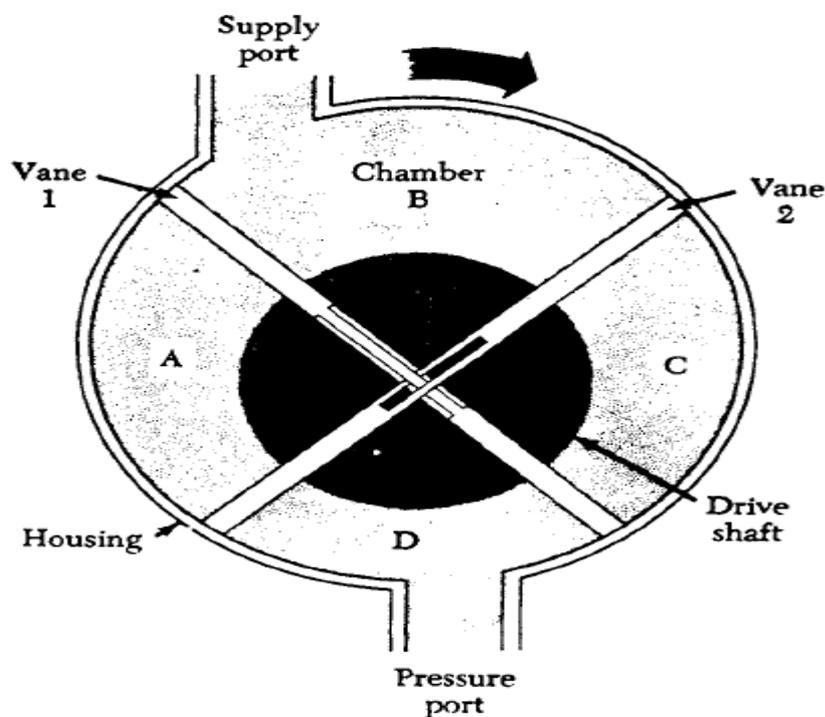

FIGURE 8-34. Schematic of vane-type air pump.
2. Figure 8-34 shows a schematic view of one of these pumps, which consists of a housing with two ports, a drive shaft, and two vanes.
5. When the pump begins to operate, the drive shaft rotates and changes positions of the vanes and sizes of the chambers. Vane No. 1 then moves to the right (figure 8-34), separating chamber B from the supply port.